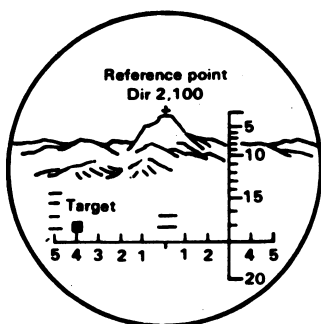
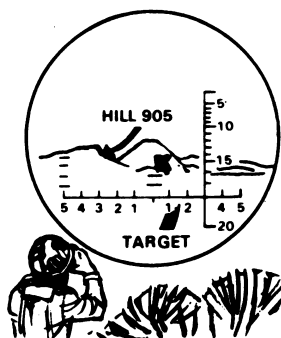

Figure 1
Figure 2
(1) By binoculars: In looking through binoculars you will find a mil scale which is used to measure horizontal distance (fig. 1). This scale is divided into 10-mil increments, with 100 mils across the scale. Let's say Hill 905 in figure 2 is your known point. You measure the deviation from Hill 905 to the target. The deviation is three 10-mil increments, or 30 mils right of Hill 905.
(1) Right Deviations--Add. In figure 2, we know the direction to Hill 905 to be 3,200 mils. With the binoculars, we measure the deviation to be 30 mils. Since the target is right of the known point we add the deviation (30 mils) to the known direction (3,200 mils). The sum is the direction to the target (3,230 mils).
(2) Left Deviations--Subtract. In figure 1, we know the direction to the reference point (2,100 mils). With the binoculars, we measure the deviation to be 40 mils. Since the